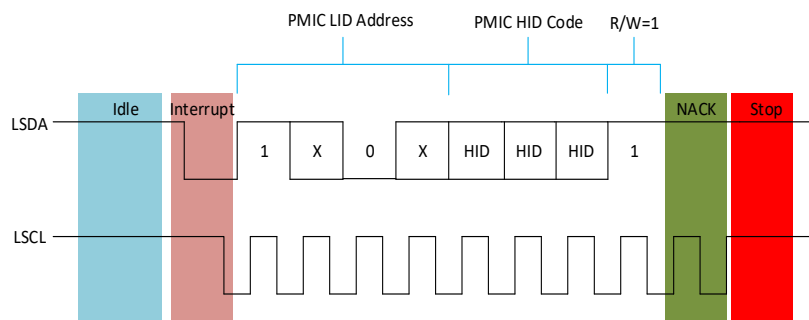

Figure 24 — PMIC Requests Interrupt; Host NACK followed by STOP
- The Host sends NACK on the 9th bit as shown in Figure 24 followed by a STOP command. In this case, the PMIC device does not transmit the IBI payload and waits for the next opportunity to request an interrupt. At this point, though Host sent an NACK, it does have a knowledge of which PMIC device sent the IBI request. The PMIC device retains the IBI status flag (Table 105, “Register 0x0A” [1] = ‘1’) and Pending Interrupt Bits [3:0] = ‘0001’